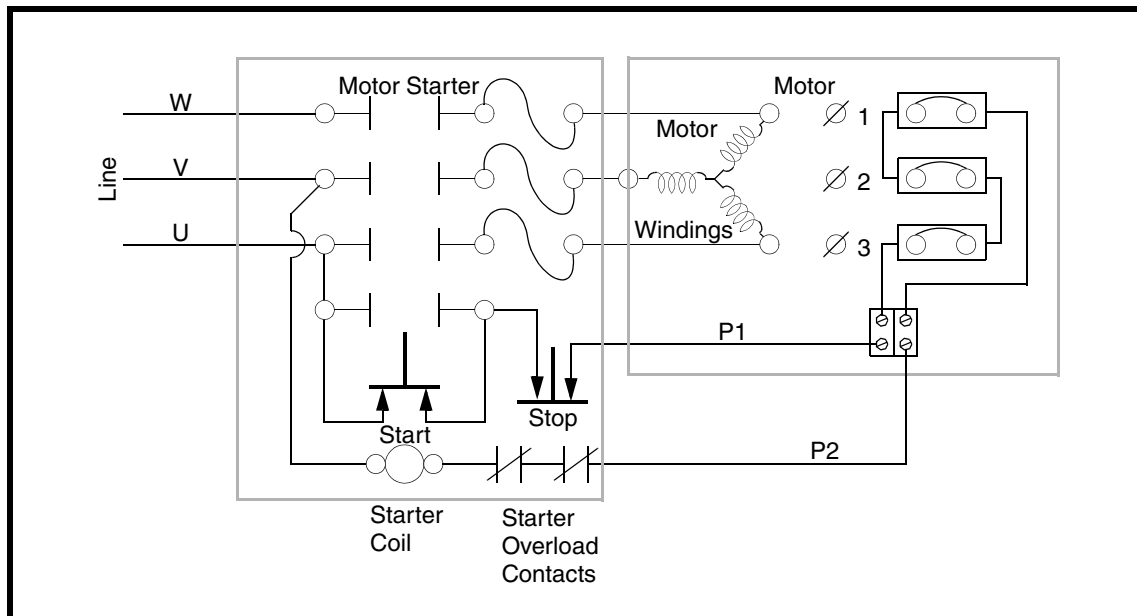

Figure 8. Manual Reset Connections
- For CDX vibrators, wire thermostats to control circuit. See Figure 8.